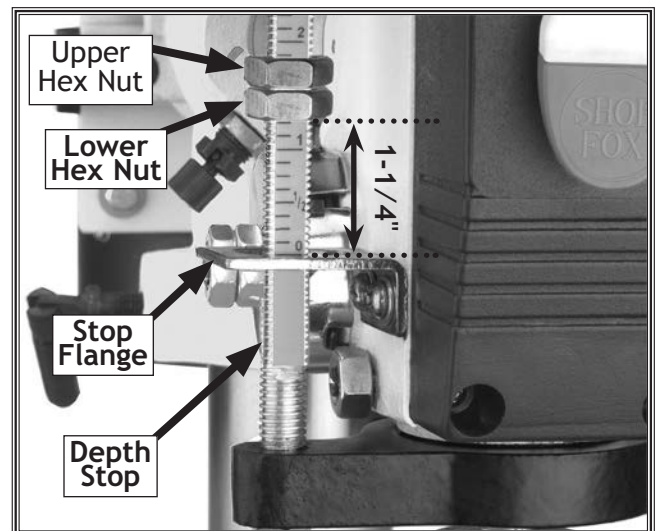

Figure 38. Depth stop set for 1 1/4" drilling depth.
2. Loosen the hex nuts shown on the depth stop and align the lower nut to the 1 1/4" mark on the depth stop rod (see **Figure 38**).